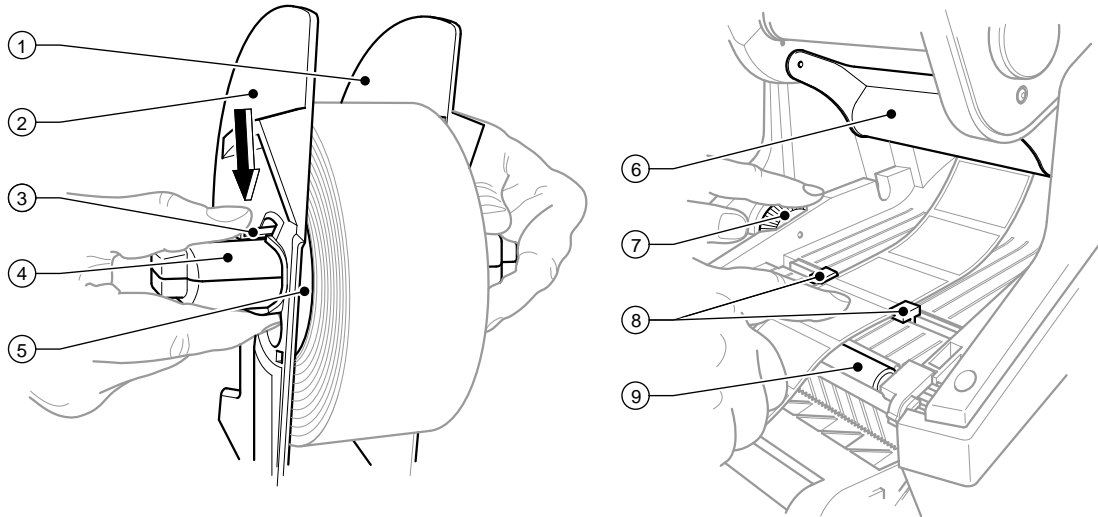

Fig. 4 Roll holder and path of the label stock
Push down the lever (3 - fig. 4) and justify the edge stops 1 and 2 (2 - fig. 4) centrally on label width.
5. Place the roll hub back into the holder slots (4) on the printer. Ensure that the rounded surfaces of the edge stops are facing forward.
6. Feed the labels over the roll hub (2).
7. Press the release button (6) and hinge the print module up.
8. Feed the fanfold labels forwards under the deflector, (6 - fig. 4), and over the print roller, (9 - fig. 4), until it projects about 15 cm out of the printer.
9. Move the label guides (8 - fig. 4) outward with the setting wheel (7 - fig. 4) until the labels can pass between them. Press the strip label down with the hand, and move the label guides (8 - fig. 4) back up against the edges of the label.
10. Hinge the print module down and press evenly on the two marked surfaces (3) so that the unit snaps in on both sides.